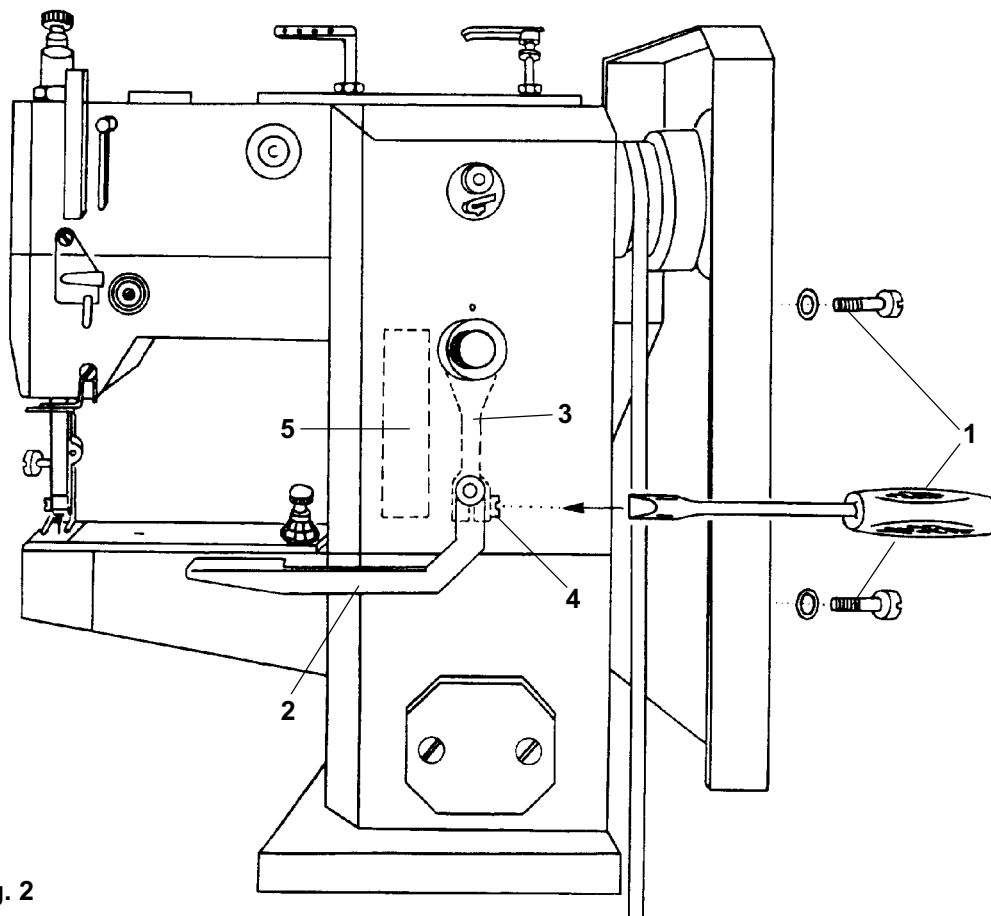

Fig. 2
8. Hand reverse sewing lever instalation (Fig. 2)